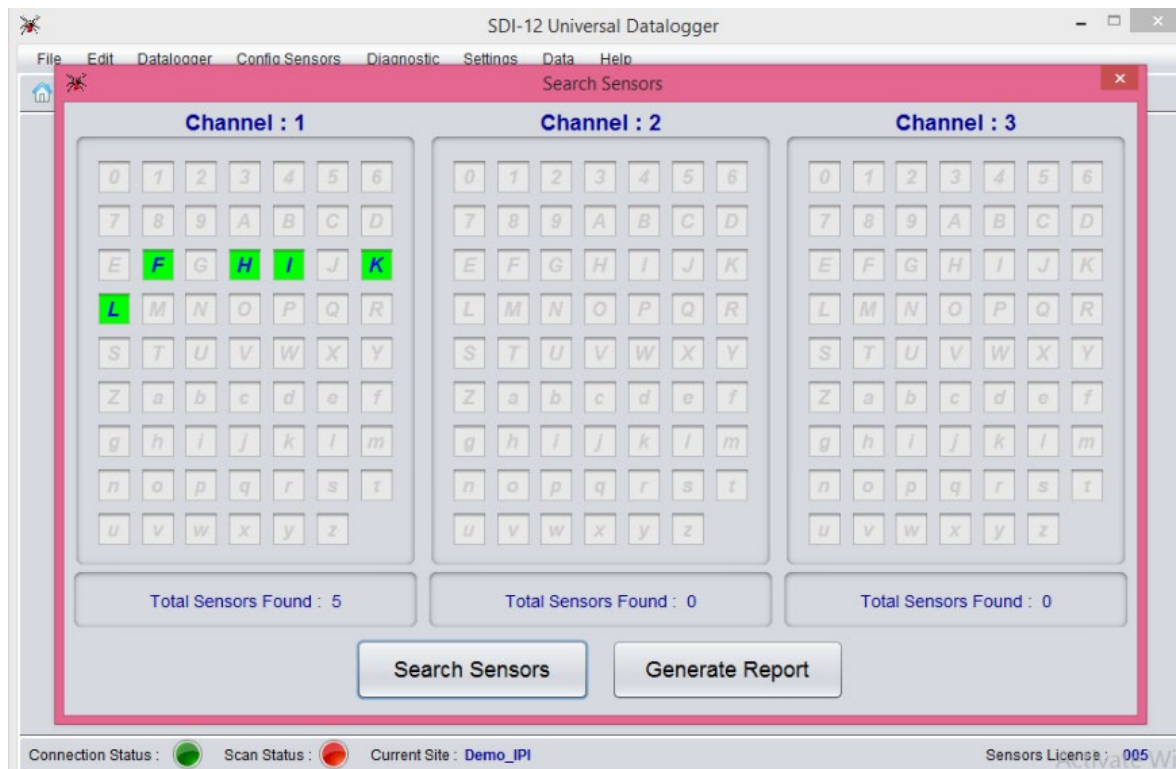

Figure 7-15 Search sensor window showing the detected sensors
- 14 On completion of search progress, addresses of sensor will be displayed (figure 7-15). Note down/generate report for later usage. Close “Search Sensors” window after use.